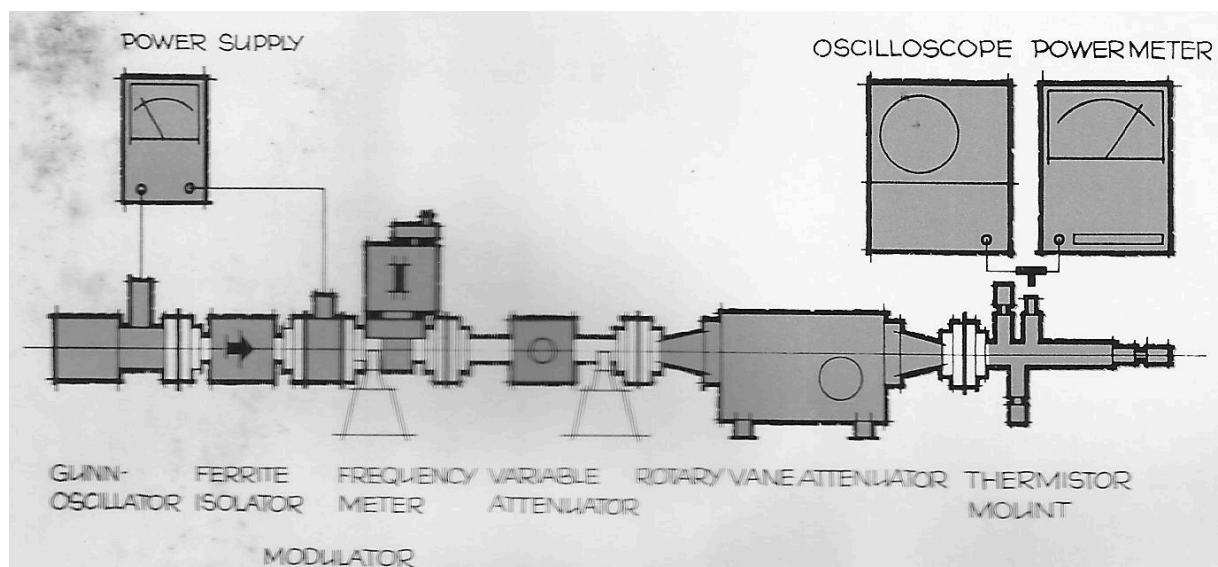

Figure 5: Experimental setup for microwave power measurement
- 1.1** Set up the experimental apparatus as shown in Figure 5. (Do not turn on the microwave oscillator's power supply yet).